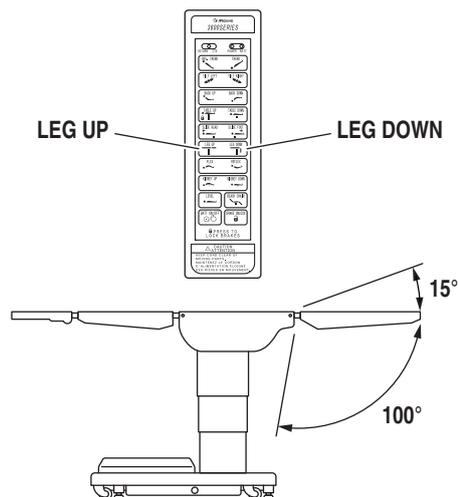

Figure 2-12. Leg Section Positioning
**g. Leg Section** To lower the leg section, press the LEG DOWN button (figure 2-12). The leg section will go down to 100° below horizontal. To raise the leg section, press the LEG UP button. The leg section will go up to 15° above horizontal.